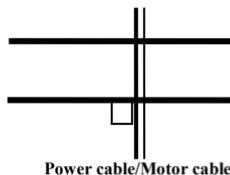

Fig. 3-16 Orthogonal wiring
(1) Please do not to wire motor cable (from inverter to motor) in parallel with power cable and keep at least 30cm from each other .
(2) Please try to arrange the motor cable through Control signal cable metal pipe or in metal wiring groove.
(3) Please use shielded cables control signal cable, and connect the shielding coat to PE terminal of inverter with proximal grounding to inverter.
(4) PE grounding cable should be directly connected to the earth plate.
(5) The control signal cable shouldn't be in parallel with strong electricity cable(power cable/motor cable).They should not be bent together and should be kept away as least 20cm from each other. If cable crossing is inevitable, please make sure it is same as Fig.3-16
(6) Please ground the control signal cable separately with power cable/motor cable.
(7) Please don't connect other devices to inverter power input terminals(R/S/T).